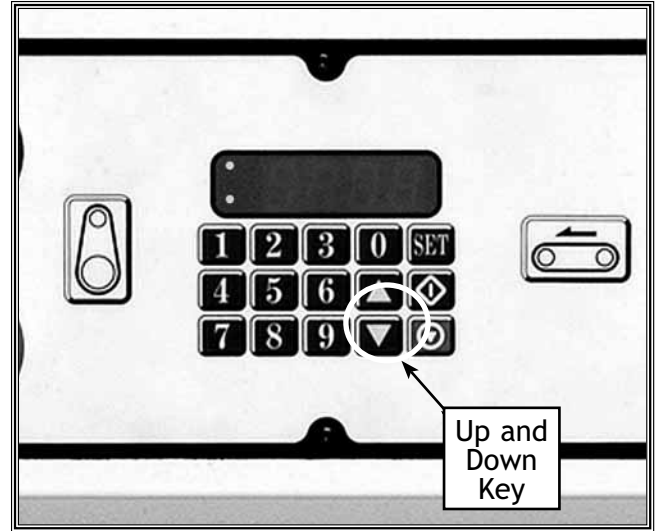

Figure 26. Key pad table-lift controls.
2. Push the down arrow key and lower the table until you achieve 6 inches between the sanding drum and the conveyor table surface. See **Figure 26**.